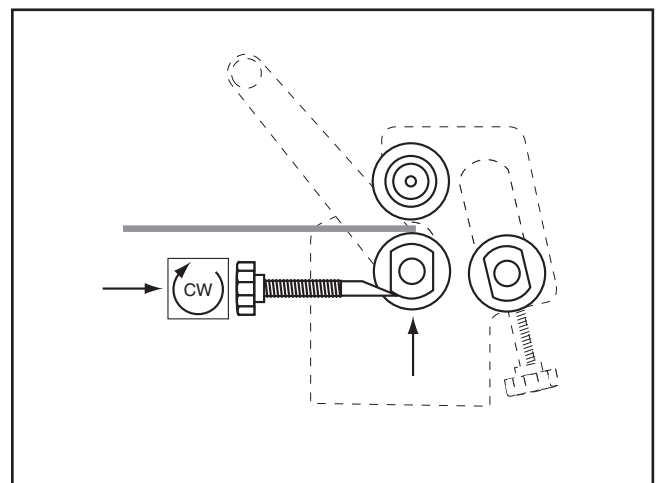

Figure 17. Raising bottom roller.
- Place the workpiece between the top and bottom rollers, as shown in **Figure 17**. Turn the thickness adjust knobs to raise the bottom roller until the workpiece is held snug between the top and bottom rollers. Be sure to turn the thickness adjust knobs equal amounts.